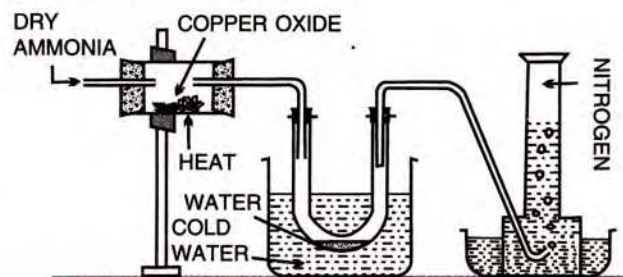

Fig. 9.8 Reducing action of ammonia
**Collection of gas :** Nitrogen is collected over water in a gas jar (Fig. 9.8).